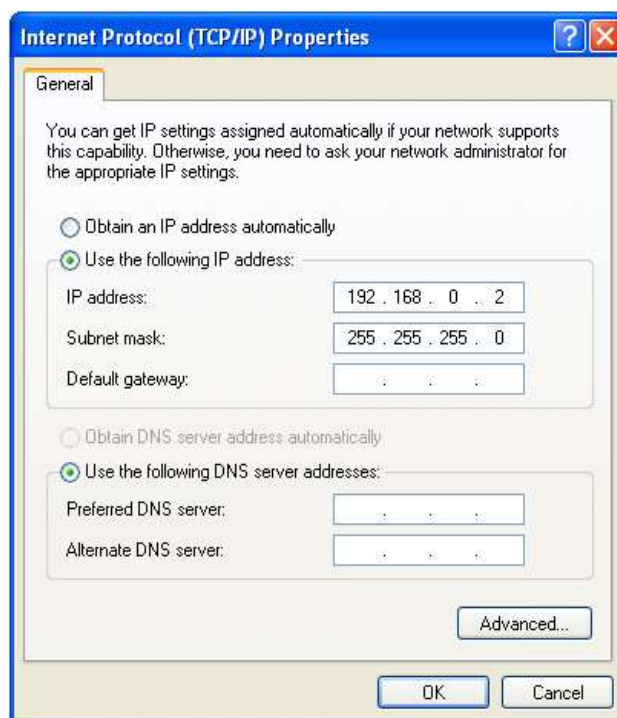

Figure A.2 – TCP/IP properties window in Windows OS
- 3) Select "Internet Protocol (TCP/IP)" from the list of connection components in the next window. Make sure that the component is enabled (flagged in the list). Click "Properties". The TCP/IP properties window opens (see Fig. A.2).